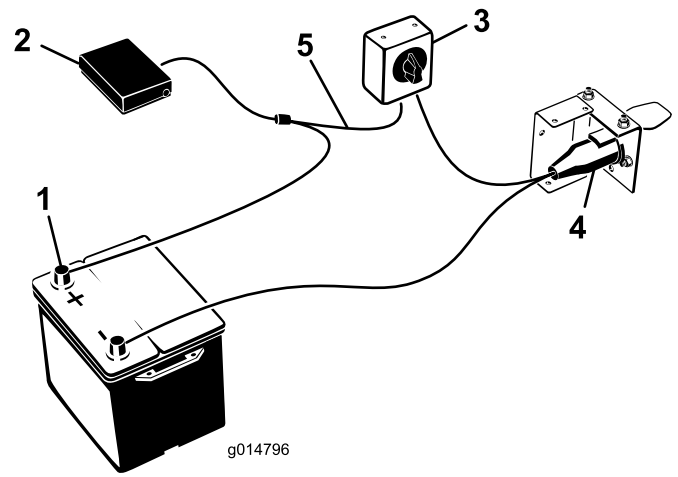

Figure 12
6. Mount the harness to the components as follows (Figure 12):
7. Mount the load controller to the load controller bracket with the (2) screws and Tinnerman nuts included.